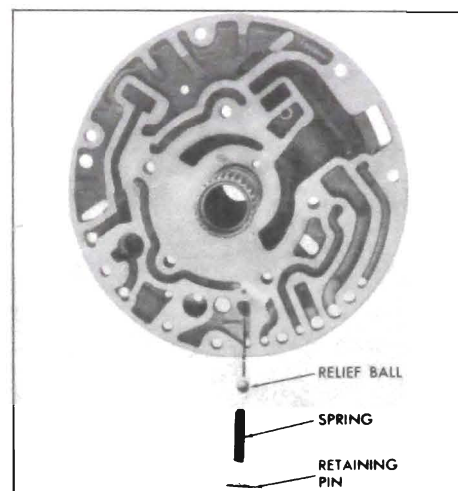

Figure 74-195
7. Install converter pressure relief ball, spring and retaining pin. See Figure 74-195.